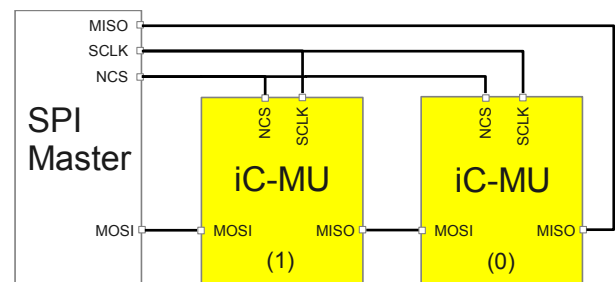

Figure 23: Example configuration with 2 Slaves (daisy chain)
Using the **ACTIVATE** command, the register and sensor data channels of the connected slaves can be switched on and off. The command causes all slaves to switch their RACTIVE and PACTIVE registers between MOSI and MISO and set them to 0 (slaves in daisy chain connection, Figure 23). The register and
An example for a daisy chain wiring of 2 SPI slaves is given in Figure 23. In order to do register communication (**Read REGISTER (single)**, **Write REGISTER (single)**, **REGISTER status/data**) with e.g. slave (1) the register communication has to be enabled explicitly for this slave and disabled for slave (0) with command **ACTIVATE** and parameter **RACTIVE**.